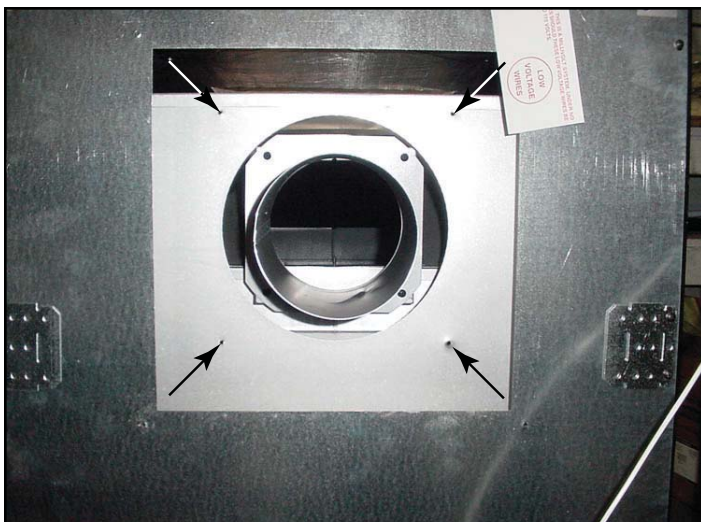

Figure 7.7 Attach Inner Collar
- Place inner collar on appliance back and replace four screws to hold this collar in place. See Figure 7.7.